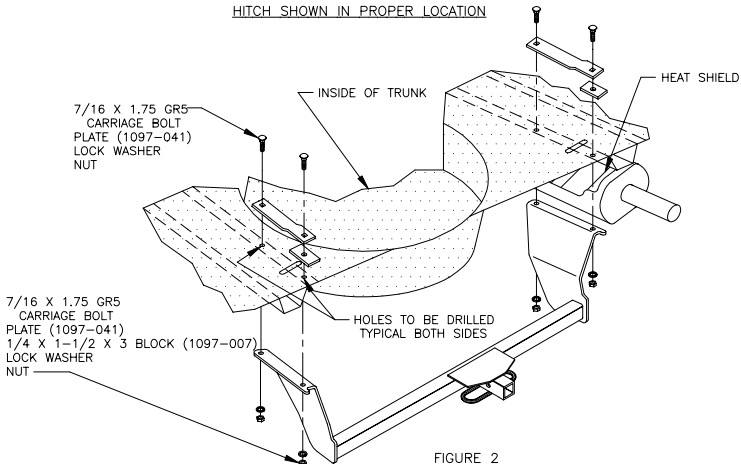

FIGURE 2
9. INSTALL REINFORCEMENT PLATE, BLOCK AND 7/16 CARRIAGE BOLTS AS SHOWN IN FIGURE 2. FASTEN WITH LOCK WASHERS AND NUTS.
11. INSTALL REINFORCEMENT PLATE, BLOCK AND 7/16 CARRIAGE BOLTS AS SHOWN IN FIGURE 2. FASTEN WITH LOCK WASHERS AND NUTS.